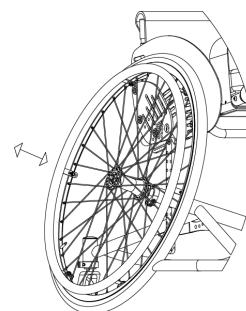

FIG. 11
- Pull the wheel towards the outside of the wheelchair (fig. 11), and the wheel shouldn't come out without you pressing the button.